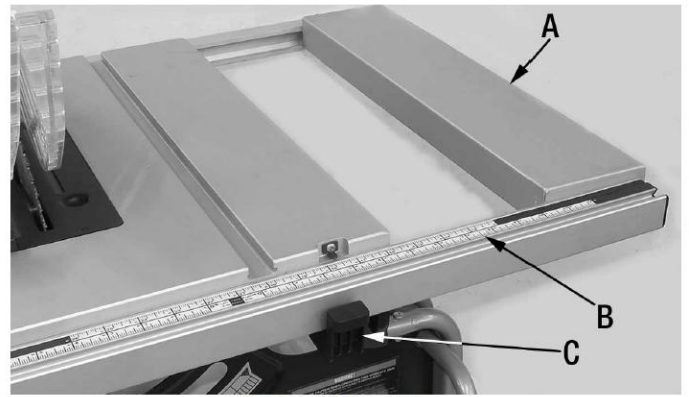

FIGURE 14
2. Unlock the extension table (A) Fig.14 by raising the extension lock lever (C), slide the extension to the desired width. Use the scale on the front rail (B) when a specific width is desired, or measure the distance from the blade for precise cuts.
3. Once the extension table is in the desired position, lower the lock lever (B) to secure the extension in place. The rip fence can now be reinstalled.